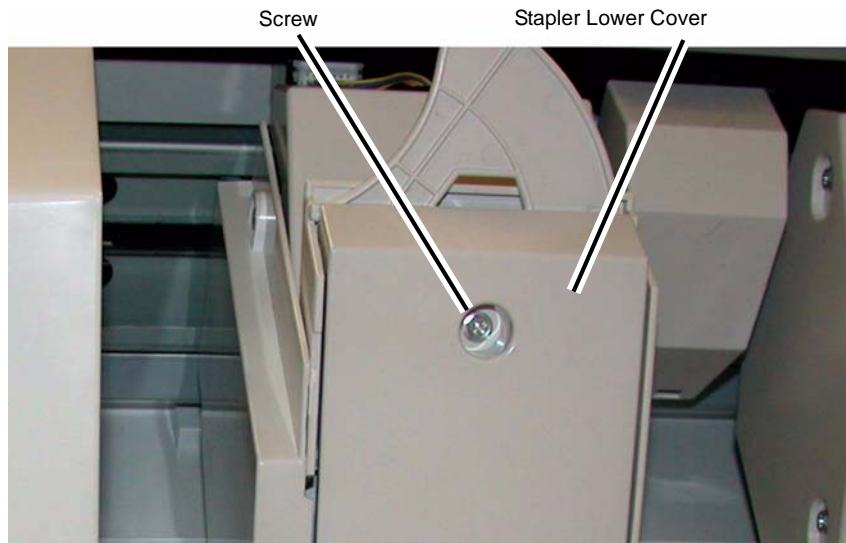

Figure 2 Removing the Stapler Lower Cover
4. Remove the Stapler Lower Cover (Figure 2).